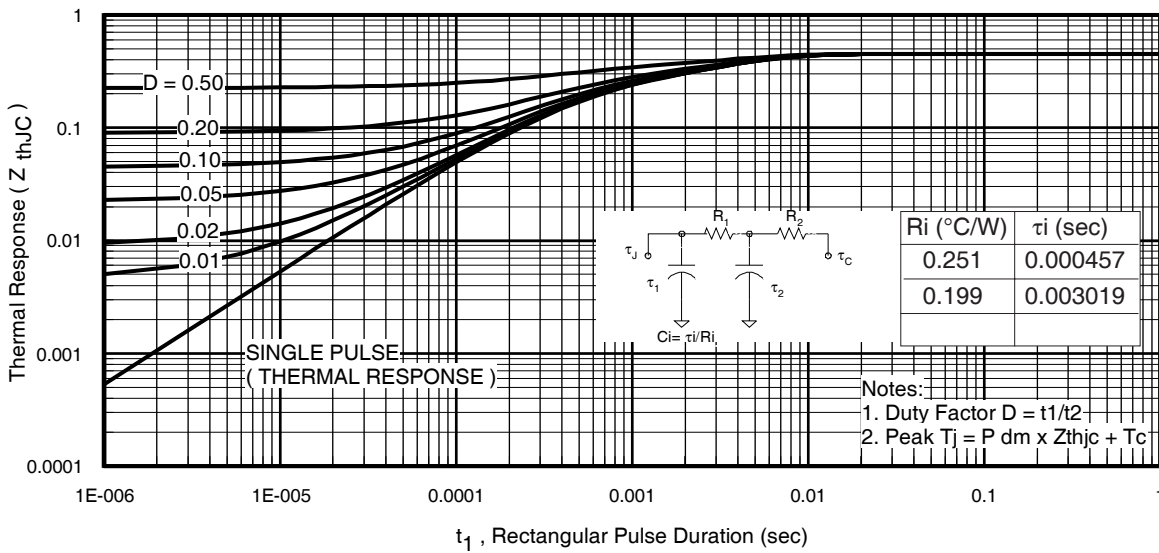

Fig 11. Maximum Effective Transient Thermal Impedance, Junction-to-Case
- ① Repetitive rating; pulse width limited by max. junction temperature. (See fig. 11).
- ② Limited by T_{Jmax} , starting $T_J = 25^\circ\text{C}$, $L = 0.11\text{mH}$, $R_G = 25\Omega$, $I_{AS} = 75A$, $V_{GS} = 10V$.
$Z_{thJC}(D, t_{av})$ = Transient thermal resistance, see figure 11)